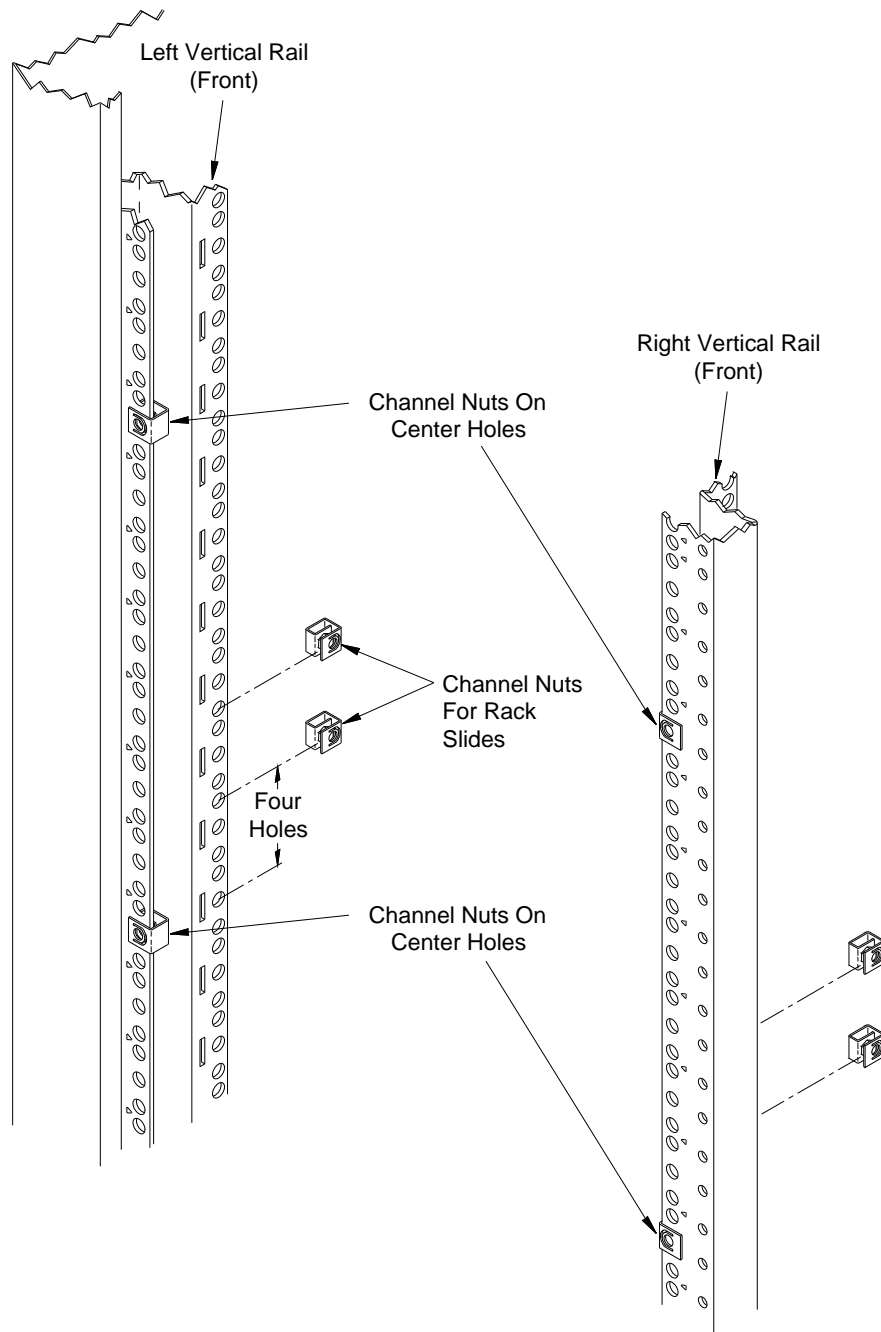

Figure 2-7. Positioning the Rack Slides (using Option 923 - standard adapters)
4. From the bottom channel nut inserted in Step 3, count up four holes. Slide a channel nut over the corresponding hole on the inside vertical rail (Figure 2-7). Install a second channel nut on the inside rail four holes above the first nut. Repeat for the other rail. Install channel nuts on the corresponding holes on the rear inside rails.